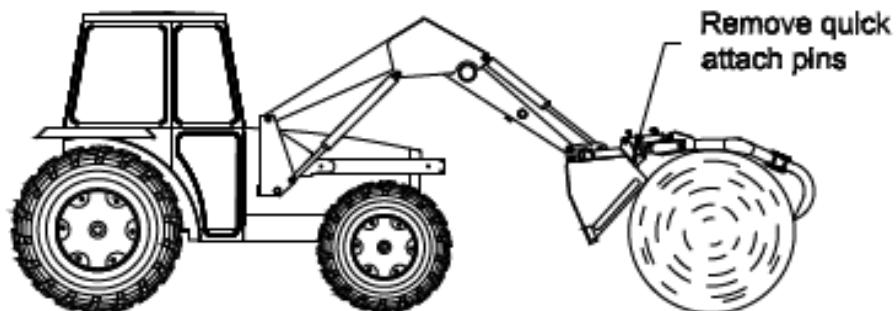

Figure 2
2. Position grapple over bales as shown (Figure 2).